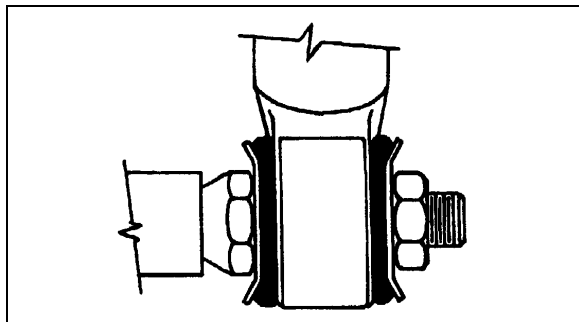

FIGURE 43: TYPICAL SHOCK ABSORBER SETUP 16009
3. Place the inner washers (with washer convex side facing the shock absorber rubber bushing) on each shock absorber pin (Fig. 43).